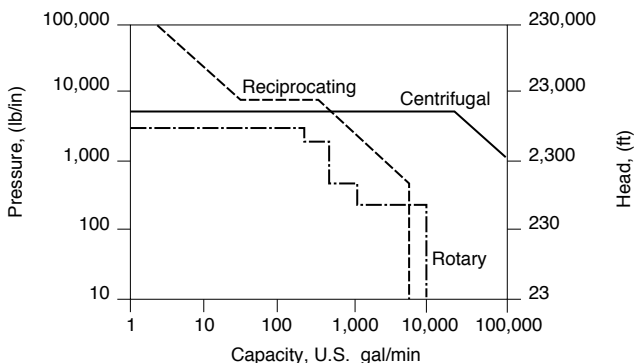

FIGURE 2. Approximate Upper Performance Limits of Pump Types
- Figure 2 displays the approximate upper limits of pressure and capacity of the three major pump types.